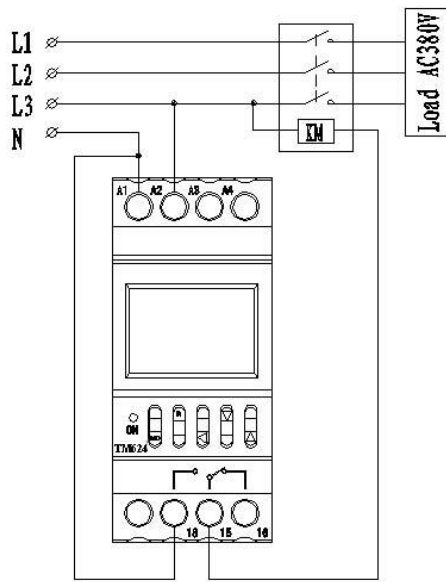

Figure 4 Three-phase controlled wiring diagram (220V for contactor coil)
- a) The coil voltage of the controlled contactor is AC 220V 50Hz, so its wiring method sees Figure 4;